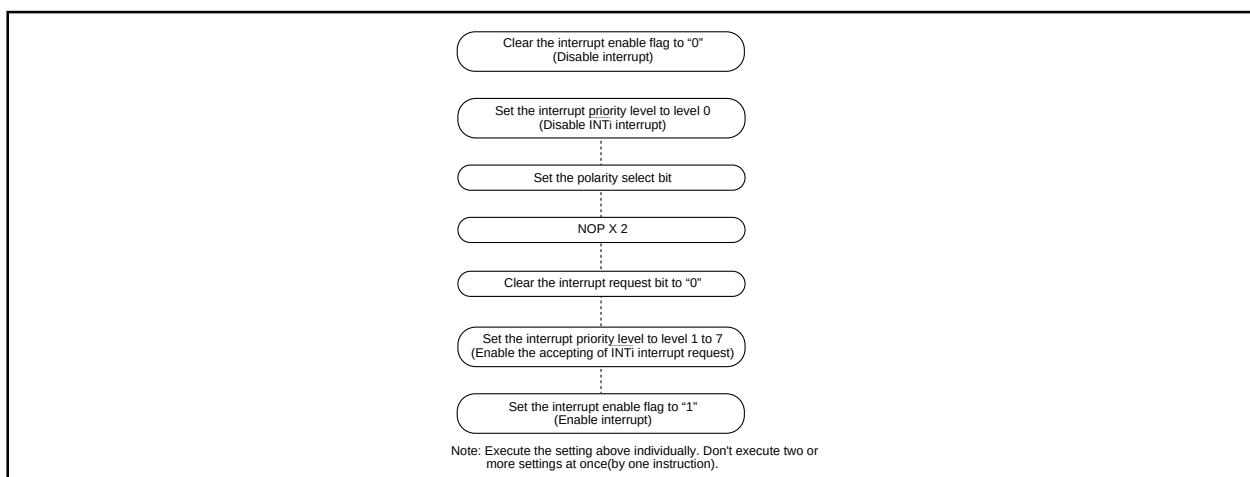

Figure 1.12.13. Switching condition of INT interrupt request
- When the polarity of the  $\overline{\text{INT0}}$  to  $\overline{\text{INT5}}$  pins is changed or the interrupt request cause of the software interrupt numbers 8 to 9 is changed, the interrupt request bit is sometimes set to "1". After these changes were made, set the interrupt request bit to "0". Figure 1.12.13 shows the procedure for changing the  $\overline{\text{INT}}$  interrupt generate factor.